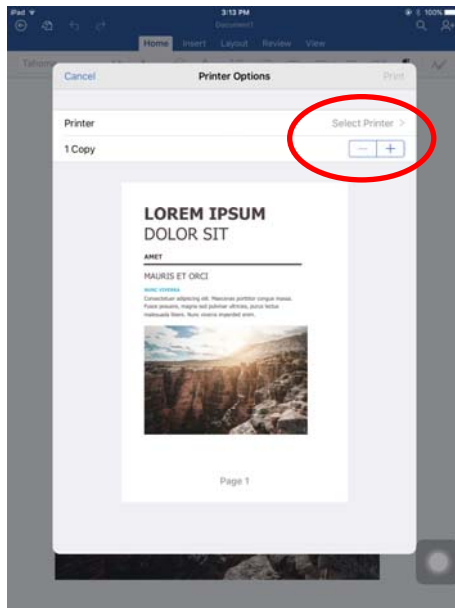

Figure 41
2.5 When the "Printer Options" interface pops up, click "Select Printer", as shown in Figure 41.